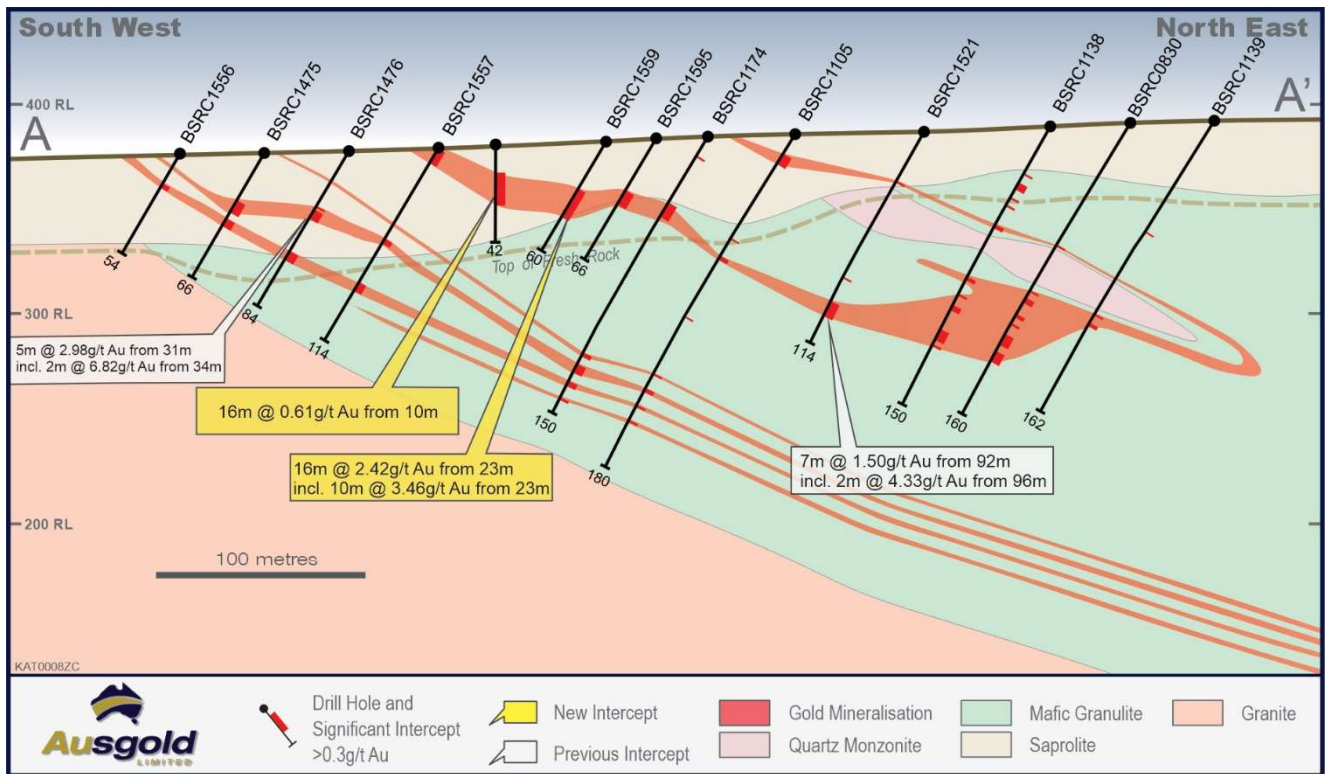

Figure 2 – Cross-section A-A' across White Dam and Jackson Lodes
- **16m @ 2.42g/t Au from 23m including 10m @ 3.46g/t Au from 23m in BSRC1559 (White Dam, Figure 2)**